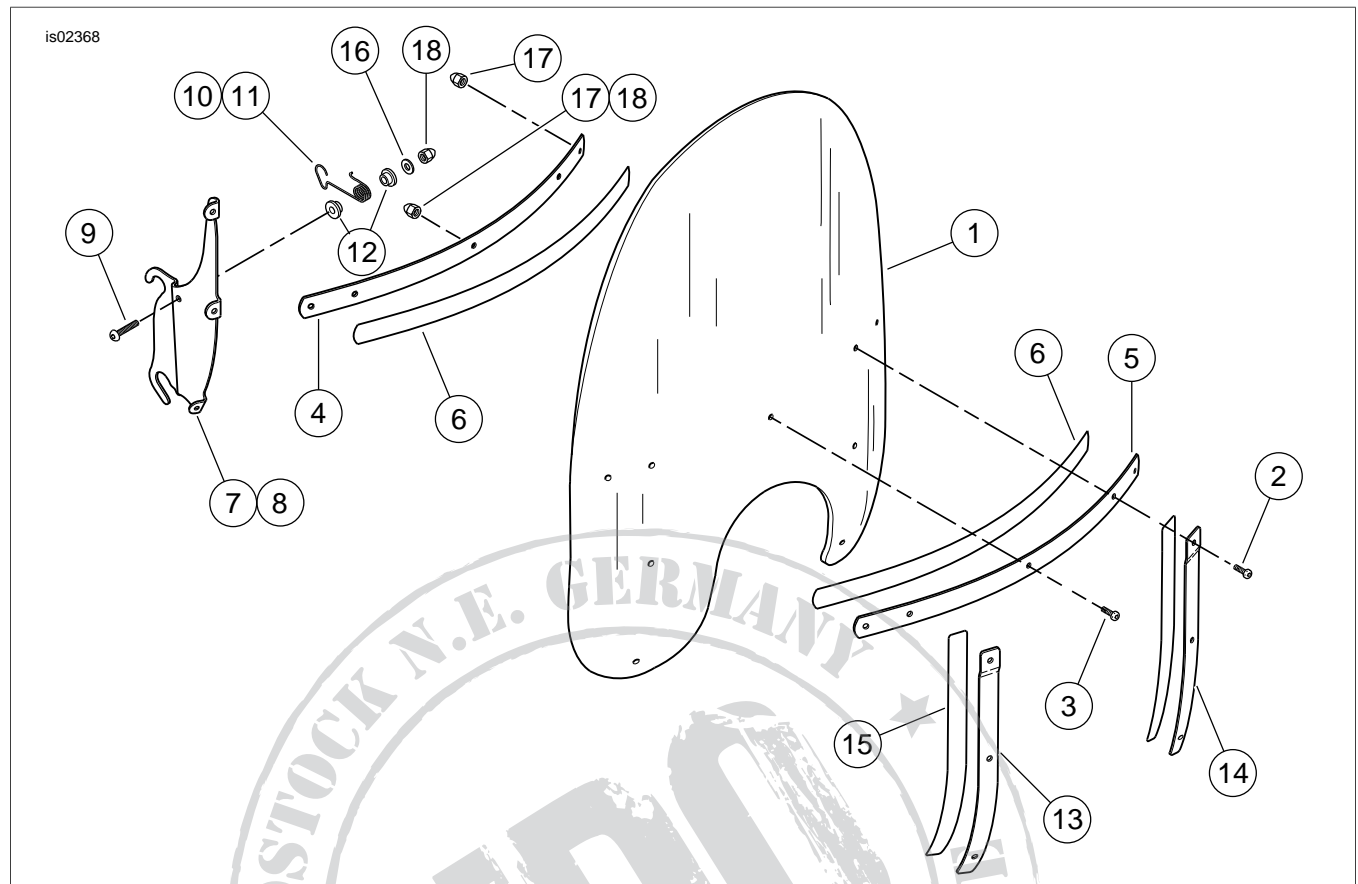
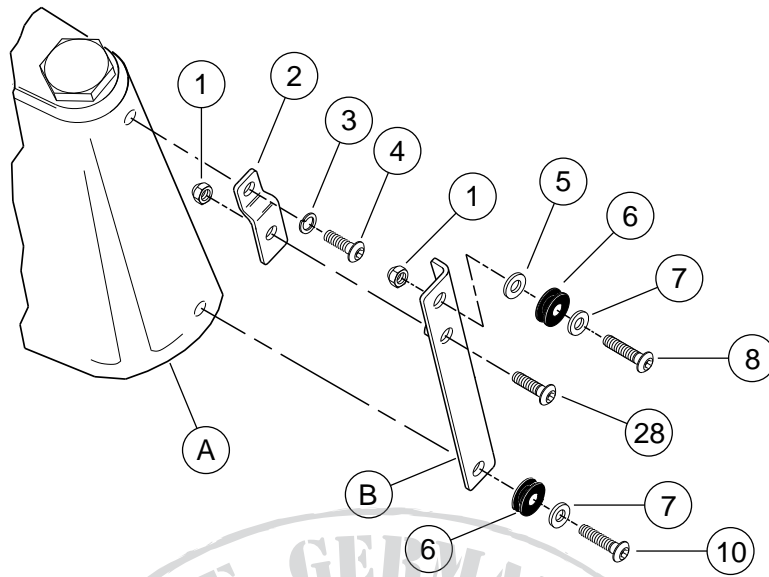

Figure 1. Service Parts: Windshield Kits
Figure 2. Service Parts: Windshield Hardware Kit
See Figure 1 and Table 2, Figure 2 and Table 3.
2. See Figure 2. Keep the bottom fog/ passing lamp bracket screws (10) in place. Rotate the tops of the left and right-side brackets toward the rear of the motorcycle.
3. Thread a 3/4 inch long screw (9) from the kit into the weldnut on the fog/ passing lamp bracket, and tighten to 8 ft-lbs (10.8 Nm).